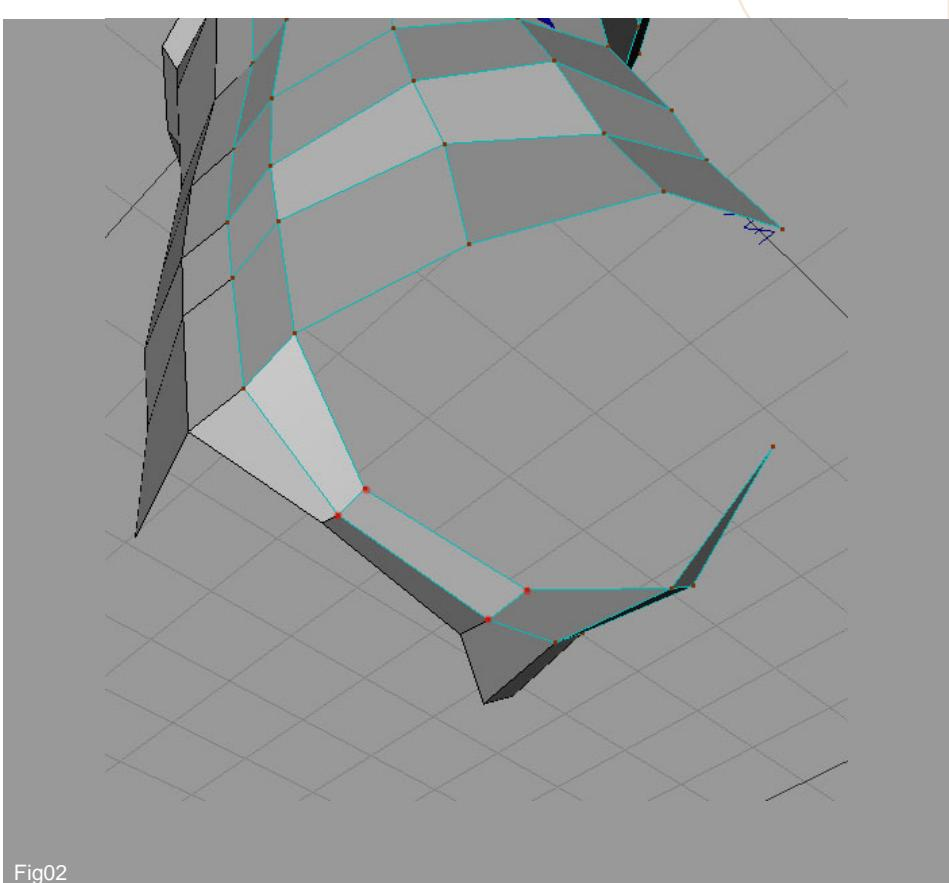

Fig02
2. The next step is to join the new edges together with another poly in between, so use the Create Polygon tool, Fig02. This will now form two holes from which we will extend the legs.